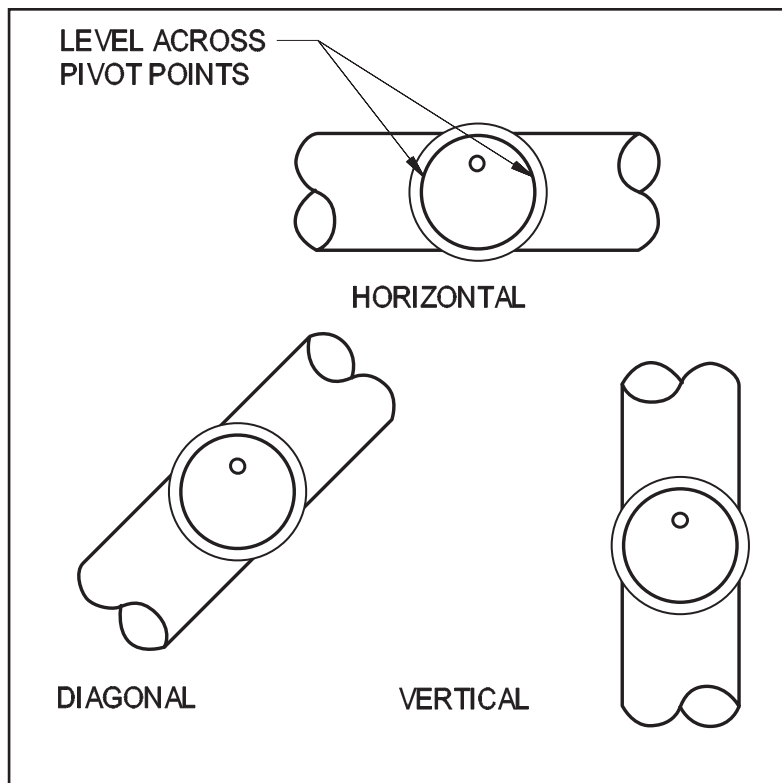

Figure 7
11. Mount the VRV assembly onto the tee and fasten with the supplied screw and nut in collar tabs. To ensure proper operation, check the gate for being level across the pivot points and plumb. (See Figure 7)